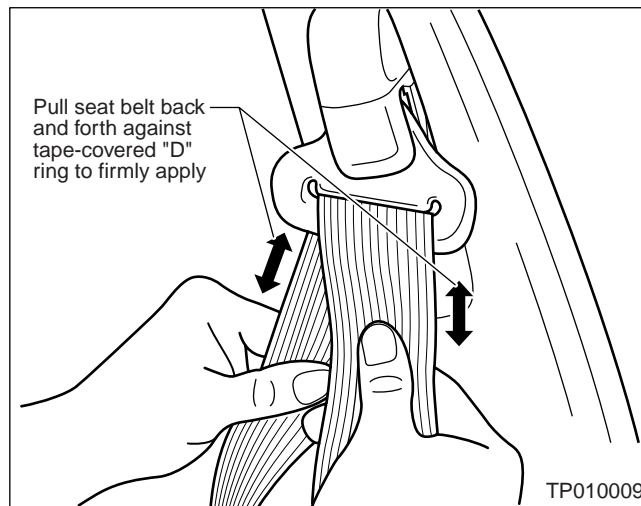

Figure 12
12. Pull the seat belt back and forth against the tape-covered "D" ring to make sure that the tape is firmly applied (see Figure 12).